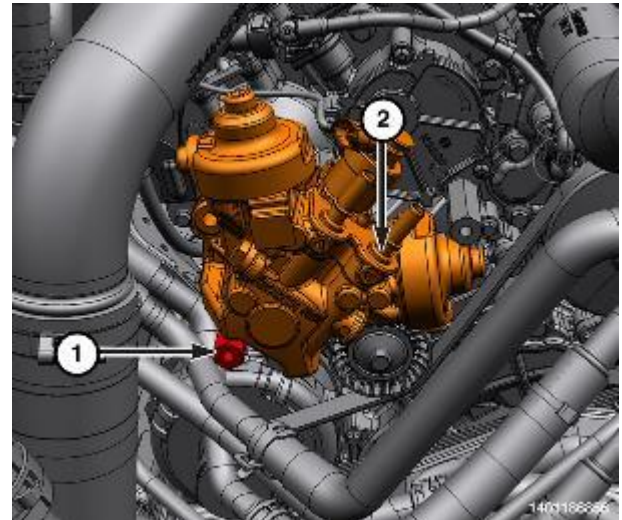

Figure 168 – Lower Bolt
35. Remove the lower bolt (1) from the HPFP (2) and remove it from the vehicle (Figure 168).